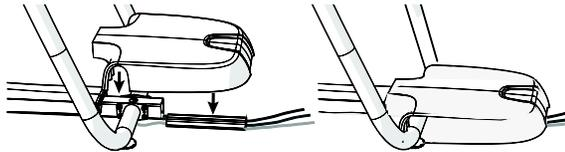

Figure 14
3. Lower the rear pedestal over the back frame tube and the side arm supports. The pedestal should sit flat on the floor and with the conduit completely inside of it (see Figure 14).